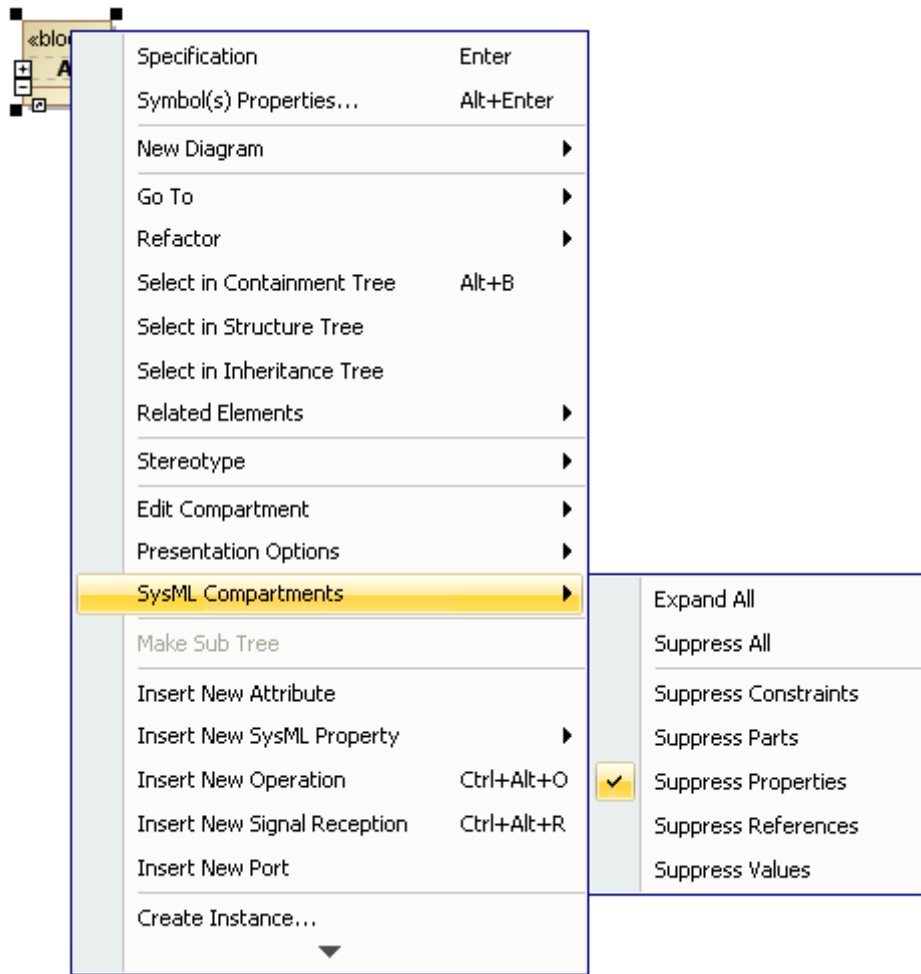

Figure 20 -- Context menu for suppression/expansion of SysML compartments
3. You can suppress or expand single SysML compartment by check or uncheck, respectively, the context menu item whose label is starting with "Suppress", followed by the compartment name (e.g. **Suppress Parts** for suppress/expand the 'parts' compartment (Figure 20)).